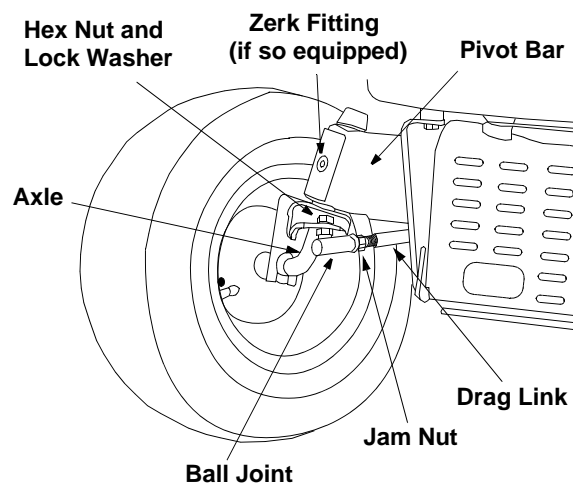

Figure 18
- Loosen the jam nut found on the drag link at the rear of the ball joint. See Figure 18.
- Remove the hex nut and lock washer on the top of ball joint. See Figure 18.